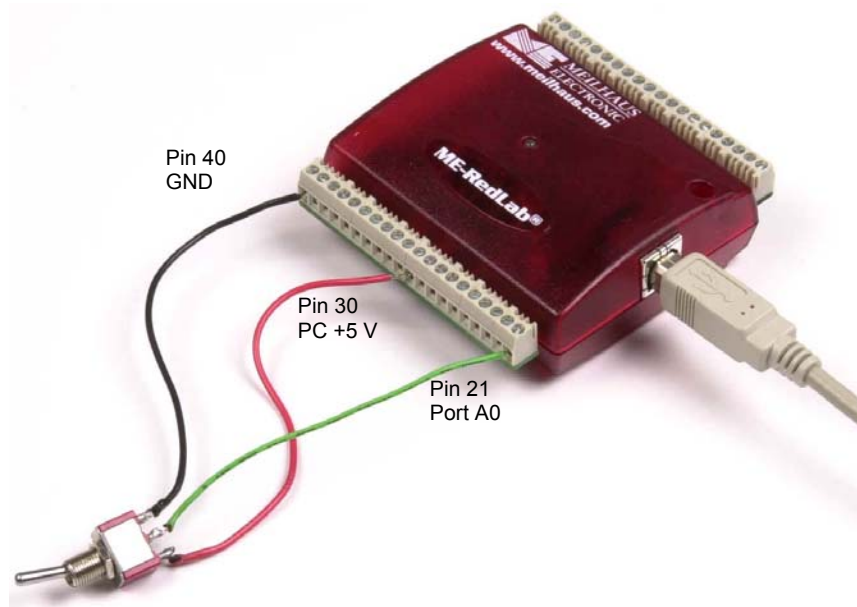
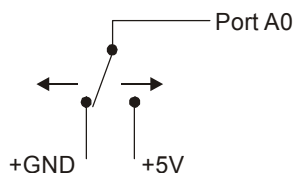

Figure 9. Digital connection Port A0 detecting the state of a switch
Figure 10. Schematic showing switch detection by digital channel Port A0
When you configure the digital bits for input, you can use the digital I/O terminals to detect the state of any TTL level input. Refer to the switch shown in Figure 9 and the schematic shown in Figure 10. If the switch is set to the +5 V input, Port A0 reads *TRUE* (1). If you move the switch to GND, Port A0 reads *FALSE*.